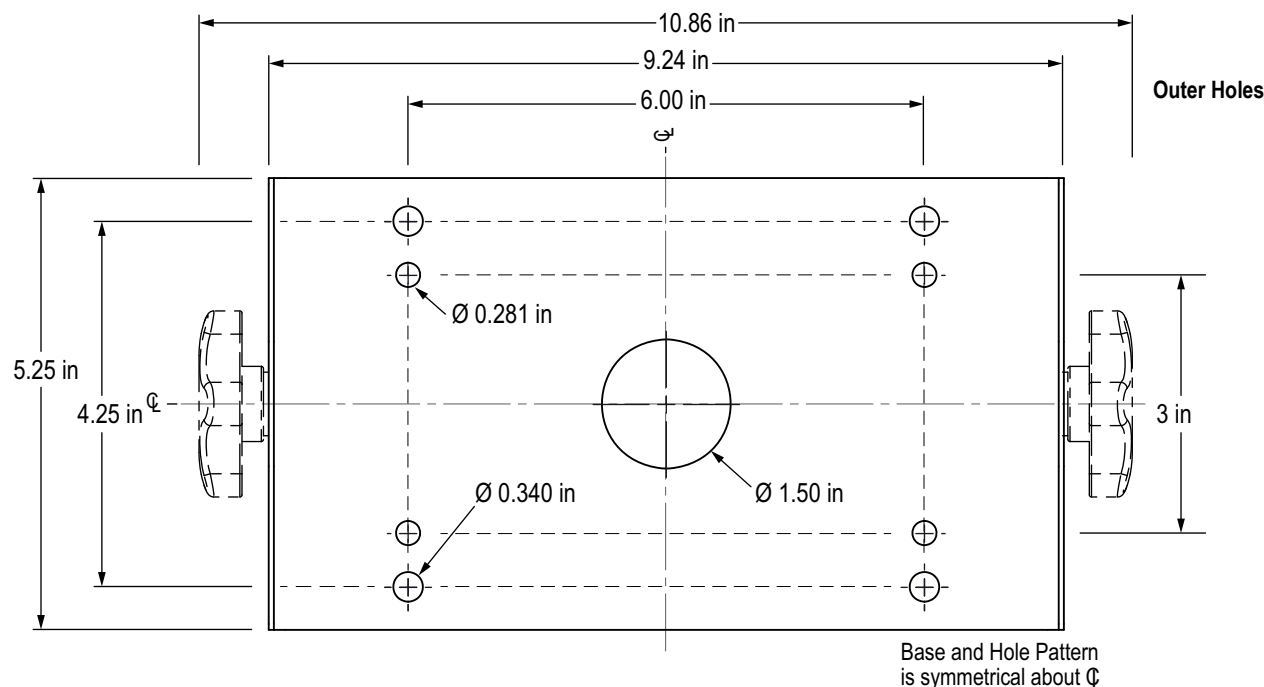

Figure 2-4. Universal Tilt Stand Hole Pattern Dimensions
1. Using the tilt stand as a template, mark the screw locations. See Figure 2-4 on page 25 for dimensions.